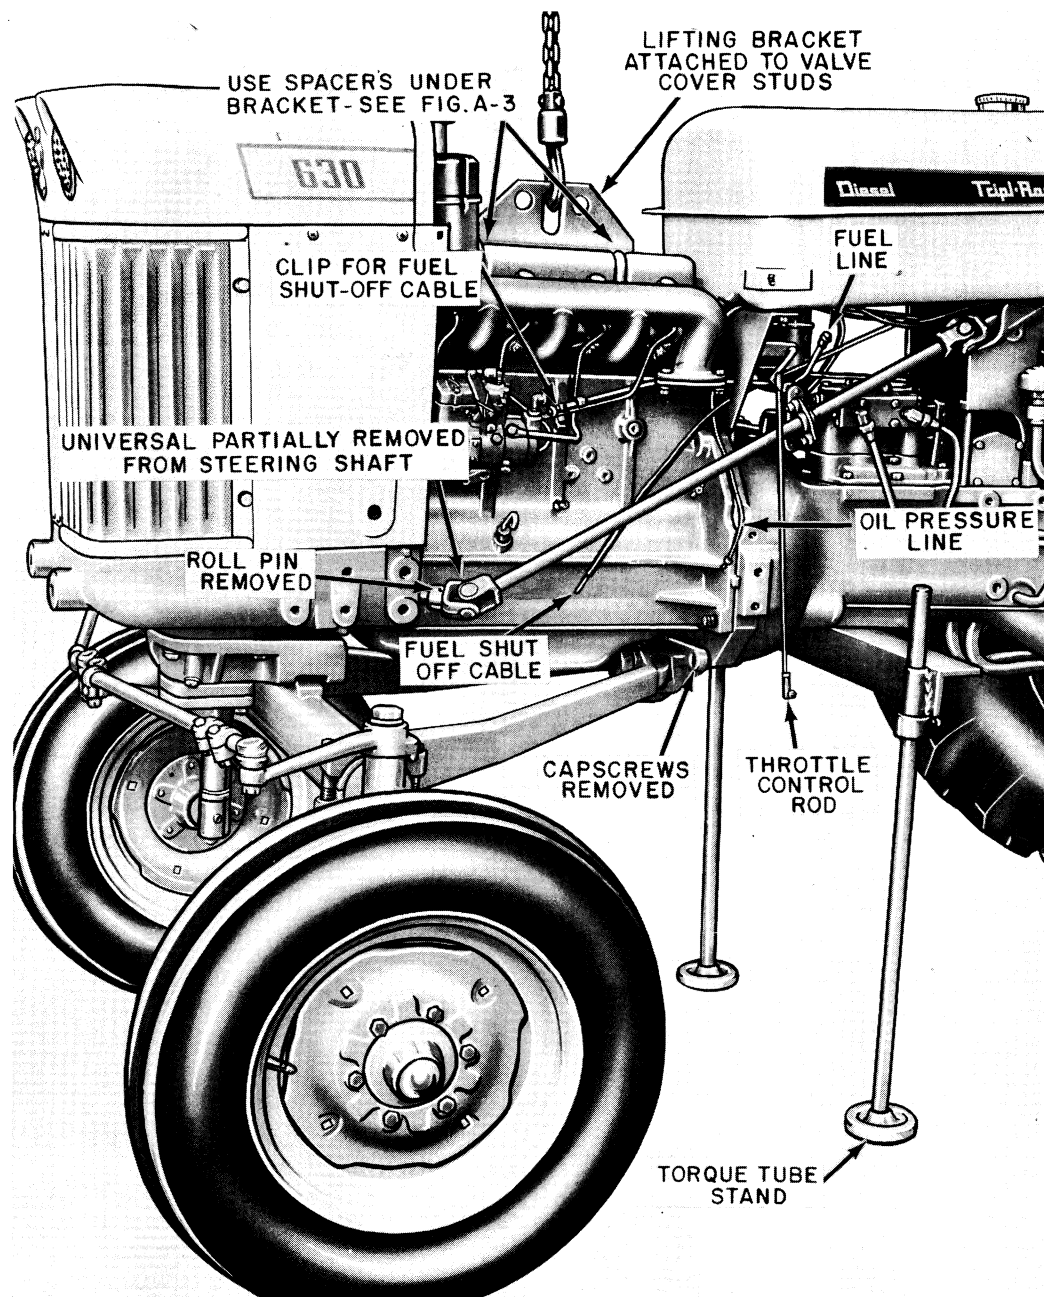

Fig. A-26 Lifting Bracket Attached to Engine and Stand Under Torque Tube
12. Secure lifting bracket to valve cover as shown in Fig. A-26 and Fig. A-3, page A-9.
13. Place a stand similar to the one shown under torque tube to support rear end of tractor. Be sure the stand is bolted to the torque tube using the holes in bottom of torque tube. Lock brakes on tractor. A stand similar to the one shown in Fig. A-26, can be made up in your shop.